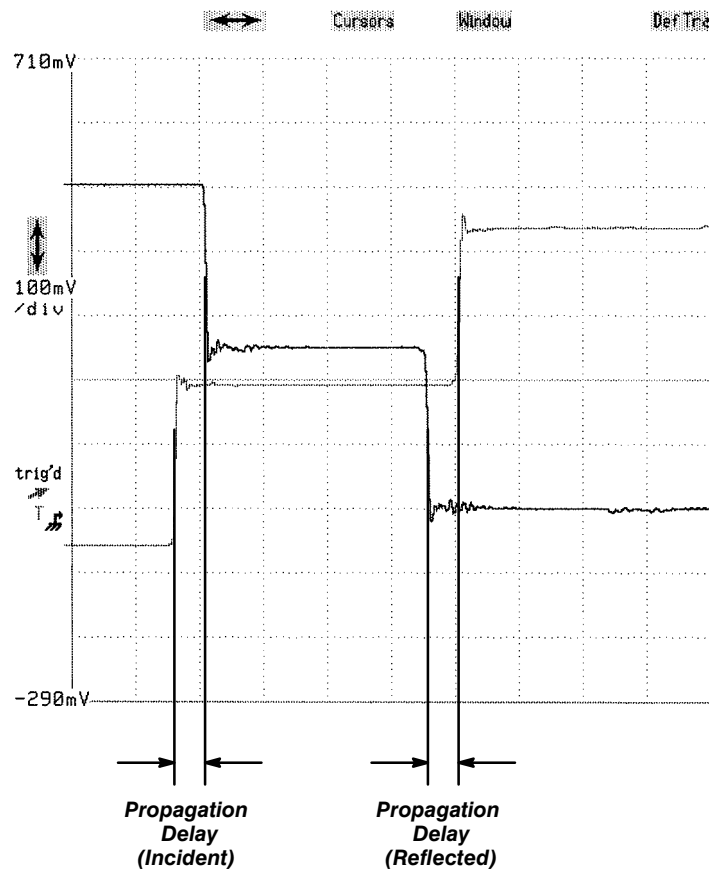

Figure 14: TDR Propagation Delay
- ☐ **Step 6:** Touch **Diff TDR Preset** to turn both TDRs on, set **Trigger** to **Internal Clock**, and autoset the upper channel. The display should be similar to Figure 14.
When making differential or common mode TDR measurements, it is important that the two steps arrive at the same time at the reference plane (usually the connection point to the device under test). To check and adjust this condition, disconnect the transmission cables from the device under test *at the point where the cables connect to the device*. Then adjust the TDR step delay for the second channel so that the propagation delay between the incident edges is equal to the propagation delay between the reflected edges, as shown in Figure 14.